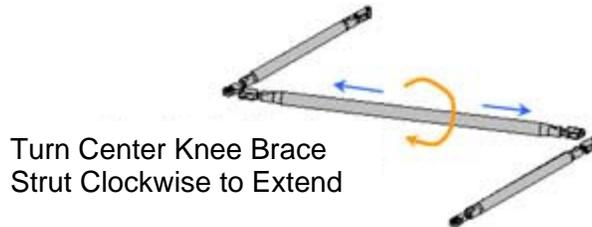

Figure 1.- Knee Brace Hardware.
2.1 Adjust Center Knee Brace Strut one to two turns \curvearrowright , until loose. Refer to Figure 1.